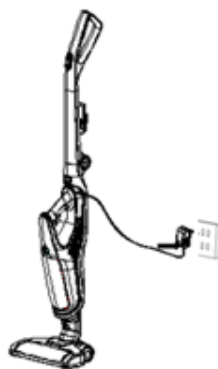

Fig 13
2. Insert the larger end of Power adapter into socket (see Fig.13), the Battery indicators light up successively and the appliance enters into charging condition. The charging is finished when all the Battery indicators illuminate. The appliance can not be activated during charging.